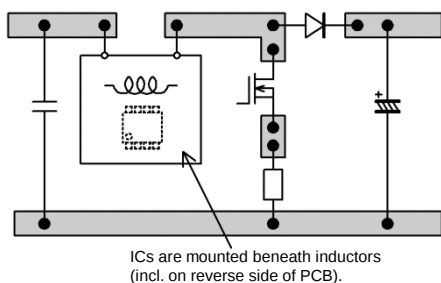

Fig. 36: Bad arrangement example (1)
- ICs are mounted beneath main circuit parts such as inductors, or on the immediate reverse side of main circuit parts on double-sided PCBs. (Fig. 36)